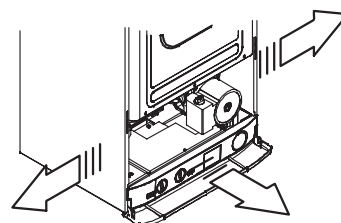

Figure 2.4
- 4 Move the lower part of the side panels as indicated in Figure 2.4 and pull the control panel.